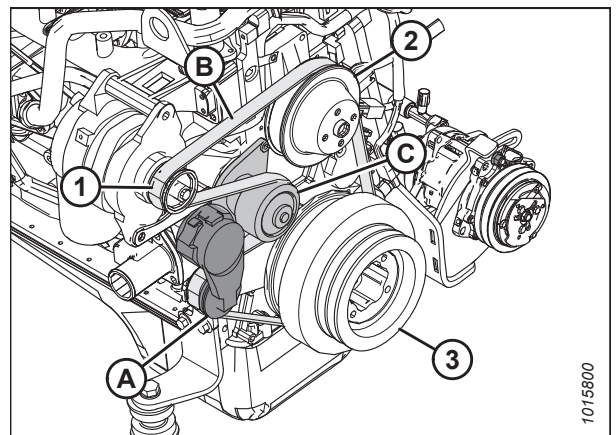

Figure 5.175: Engine Belt
5. Insert the drive end of a 1/2 in. drive ratchet wrench into belt tensioner (A).
6. Rotate tensioner counterclockwise until fan belt (B) can be slipped off pulley (C). Release the tensioner and remove the wrench.
7. Remove the belt in order 1, 2, 3, as shown in Figure 5.175, page 425.
8. Insert the drive end of a 1/2 in. drive ratchet wrench into belt tensioner (A).
9. Rotate the tensioner counterclockwise until belt (B) can be slipped onto pulley (C). Release the tensioner and remove the wrench.